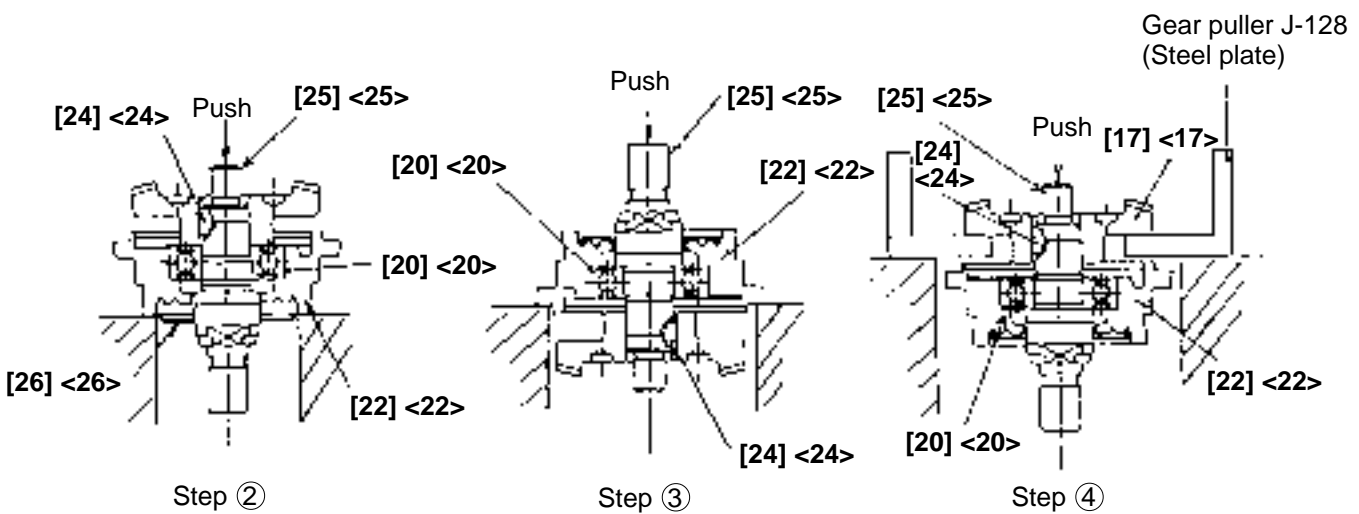

Fig. 1
(5) Disassembly of the gear (Fig. 1)
- ① Loosen the four Seal Lock Screws M4 x 12 [23] <23> fixing the Packing Gland [22] <22>, and remove the Packing Gland [22] <22> from the Gear Cover Ass'y [4] <4>.
- ② Support the bottom of the Packing Gland [22] <22> with a jig, and push down on the upper portion of the Spindle [25] <25> with a hand press until the end surface of the Woodruff Key [24] <24> contacts the Ball Bearing [20] <20> and the Spindle [25] <25> cannot be pushed down any more. Be careful not to deform the Finger [26] <26>.
- ③ Turn the Packing Gland [22] <22> upside down and fix it, then push down the Spindle [25] <25>.
- ④ Insert the J-128 gear puller (use of a steel plate is permitted as a substitute) between the Gear [17] <17> and the Packing Gland [22] <22>, and push down the Spindle [25] <25> with a hand press to remove it.